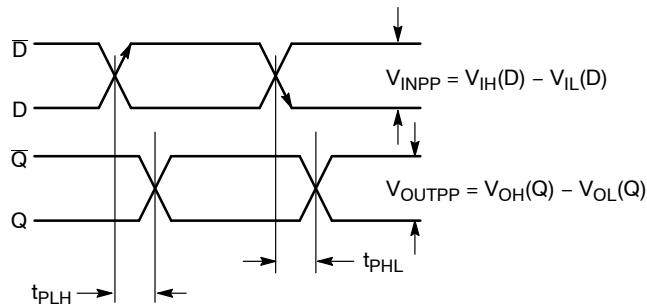

Figure 6. AC Reference Measurement
18. See Figure 6. $t_{skew} = |t_{PLH} - t_{PHL}|$ for a nominal 50% differential clock input waveform.
21. See Figure 6. $t_{skew} = |t_{PLH} - t_{PHL}|$ for a nominal 50% differential clock input waveform.